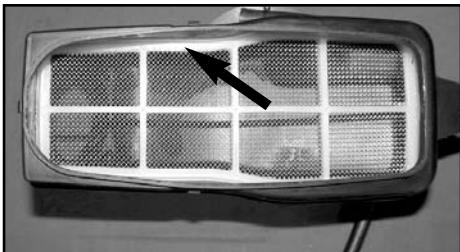

Fig. 1
3. Apply sealing grease around the sealing surface of the air box base . (Fig. 1)